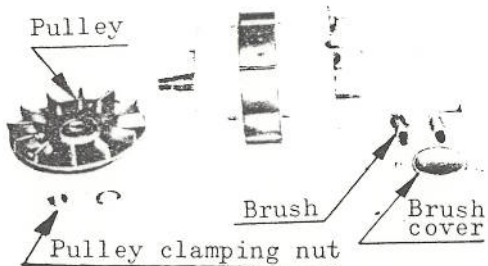

Fig. 10-122
- 1) Remove the pulley clamping nut and then dismount the pulley. Also remove the brush and brush cover from the rear cover. (See Fig. 10-122)